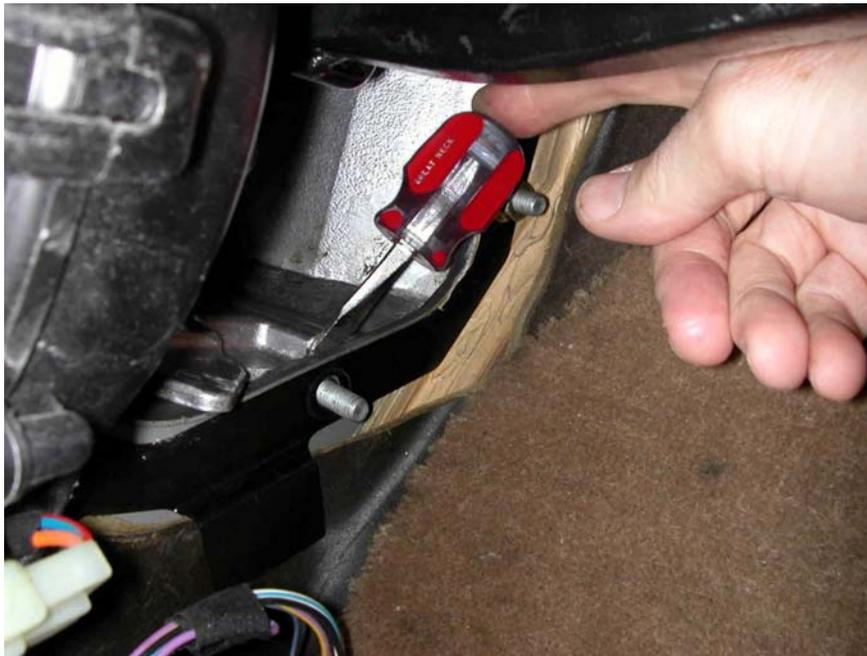

Fig. 17
16. In the passenger-compartment footwell, insert a stubby flat-bladed screwdriver between the pedal assembly and the body (Fig. 17). Pry the pedal assembly up  $\sim\frac{1}{4}$  in. to break the seal to the body. The rubber seal between the assembly and body causes the two to stick tightly together. I could not loosen the pedal assembly from above prior to taking this step.